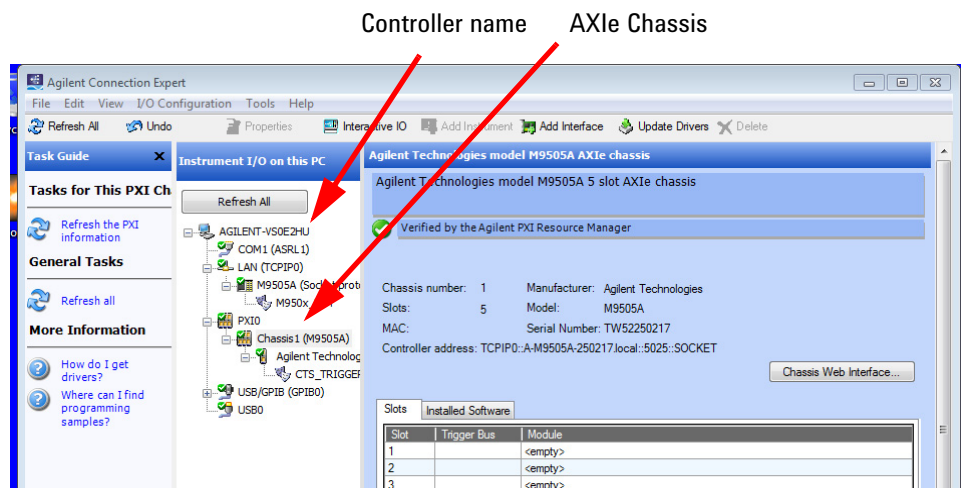

Figure 12 Agilent Connection Expert for an AXIe Embedded Controller
- 2 **Figure 12** below shows Agilent Connection Expert (with the M9536A Embedded Controller listed as the PC). The **Instrument I/O on this PC** pane shows instrument connections available to your controller and shows how an AXIe chassis appears under the PXI0 tree. Refer to the Agilent IO Libraries documentation for information on using Connection Expert.